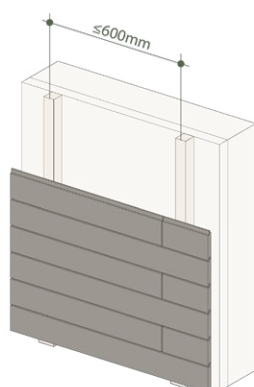

Fig. 1: Single-layer thermo subframe for horizontal cladding installation
A. These Brolis profiles are suitable for wooden frames: for vertical battens – ‘Mykolas’ 26x68 or 26x92, battens 42x42; for horizontal battens – half-rhombus or rhombus profiles in 26x68 or 26x92 (see Fig. 1; 2).